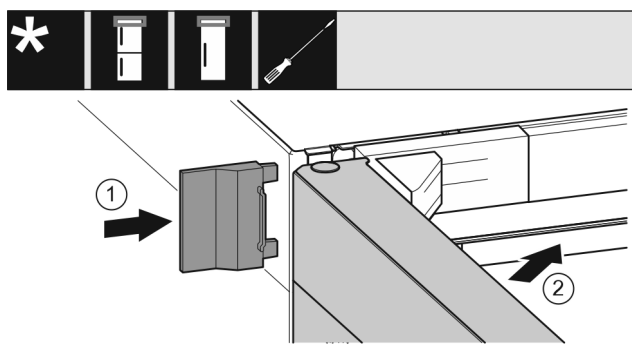

Fig. 21
- Push the outer cover Fig. 21 (1) on.
- Close the upper door Fig. 21 (2).